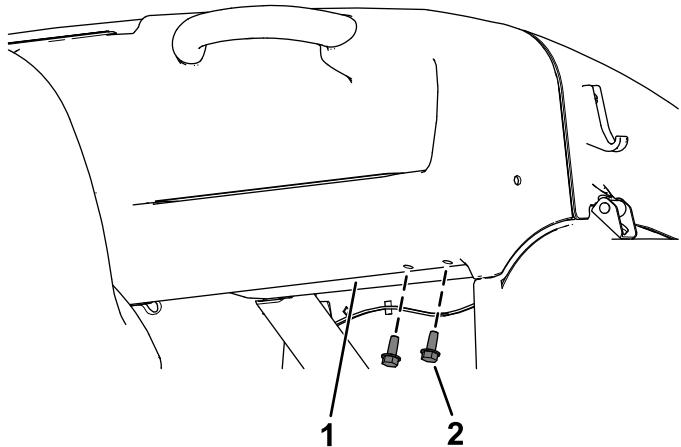

Figure 24
A. Remove the 2 screws (5/16 x 3/4 inch) securing the dash to the machine frame (Figure 24).